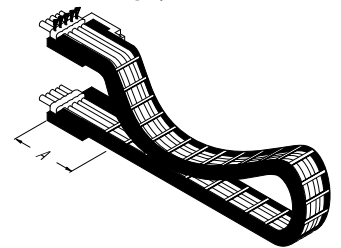

Fig. 2
- For long, sliding energy chains, fasten only at the moment compensator end (→ Fig. 2).